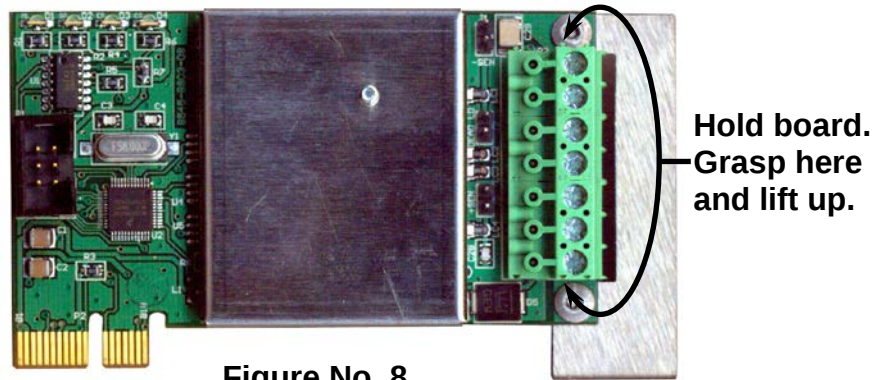

Figure No. 8
8. Remove the 7-conductor terminal from the 825-SIB. (Hold the board in place, grasp the terminal block connector, and lift straight up away from the board). See Figure No. 8.